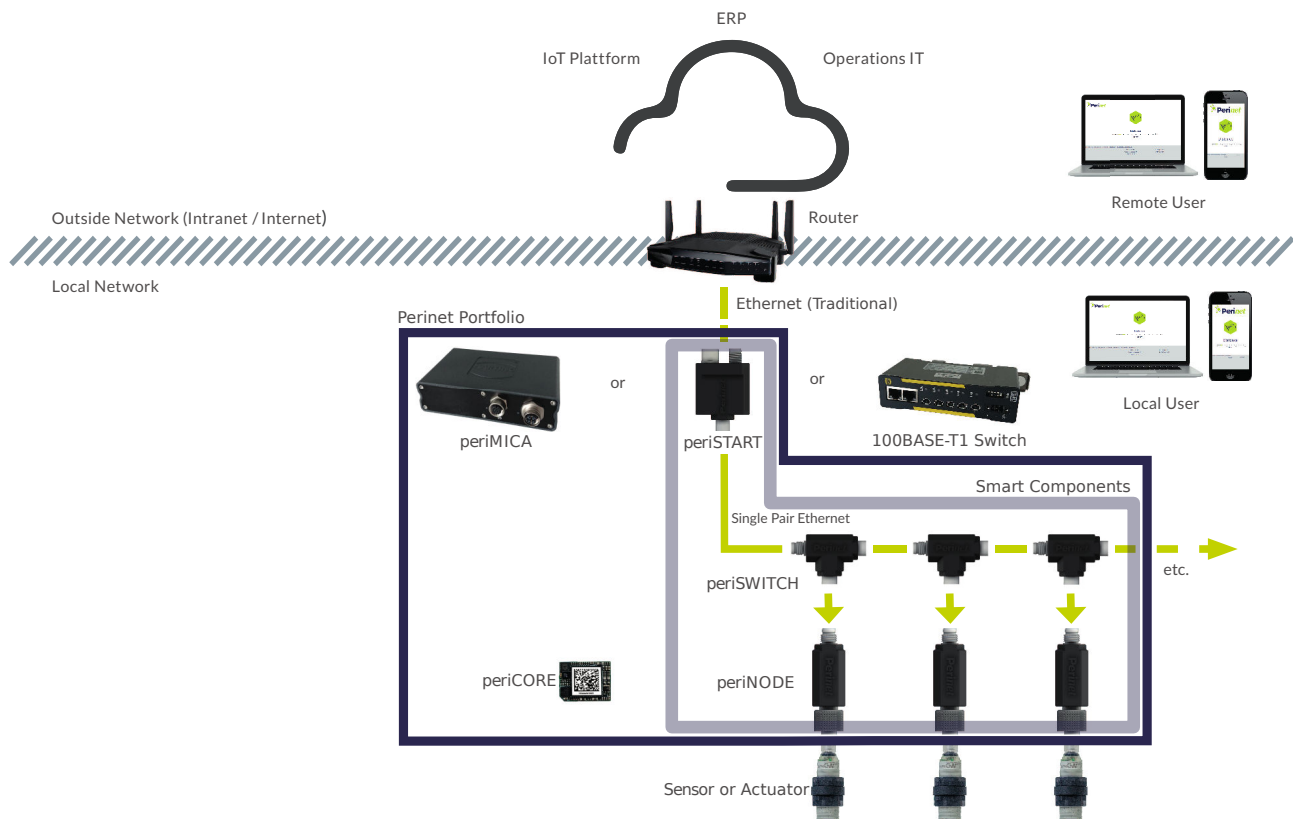

Figure 1: Perinet Seamless IoT Connectivity System
Perinet also provides containers for functionalities needed on field level in (I)IoT applications, typically, e.g. a local MQTT broker. It is therefore the first stop for data travelling from sensors or actuators to the cloud. The sensors and actuators are connected preferably via network, as shown in Figure 1, in combination with our other products. In the same time, the periMICA is ideal as bus master for non-Ethernet sensors as well.